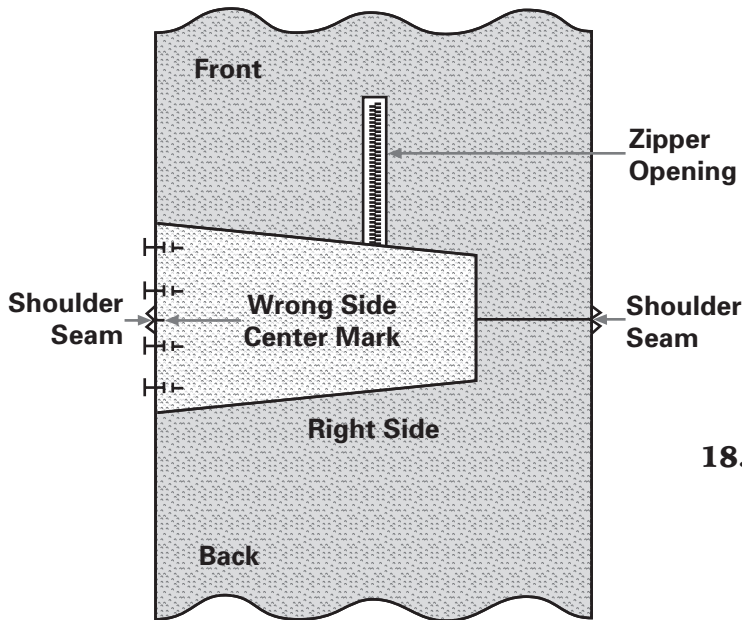

Fig. 4-8
13. Mark the center, upper edge of each sleeve. With right sides together and the center marks aligned with the shoulder seams, pin sleeves to the front and back panels. Sew in place. Backstitch at the beginning and ending of each seam. (Fig. 4-8)